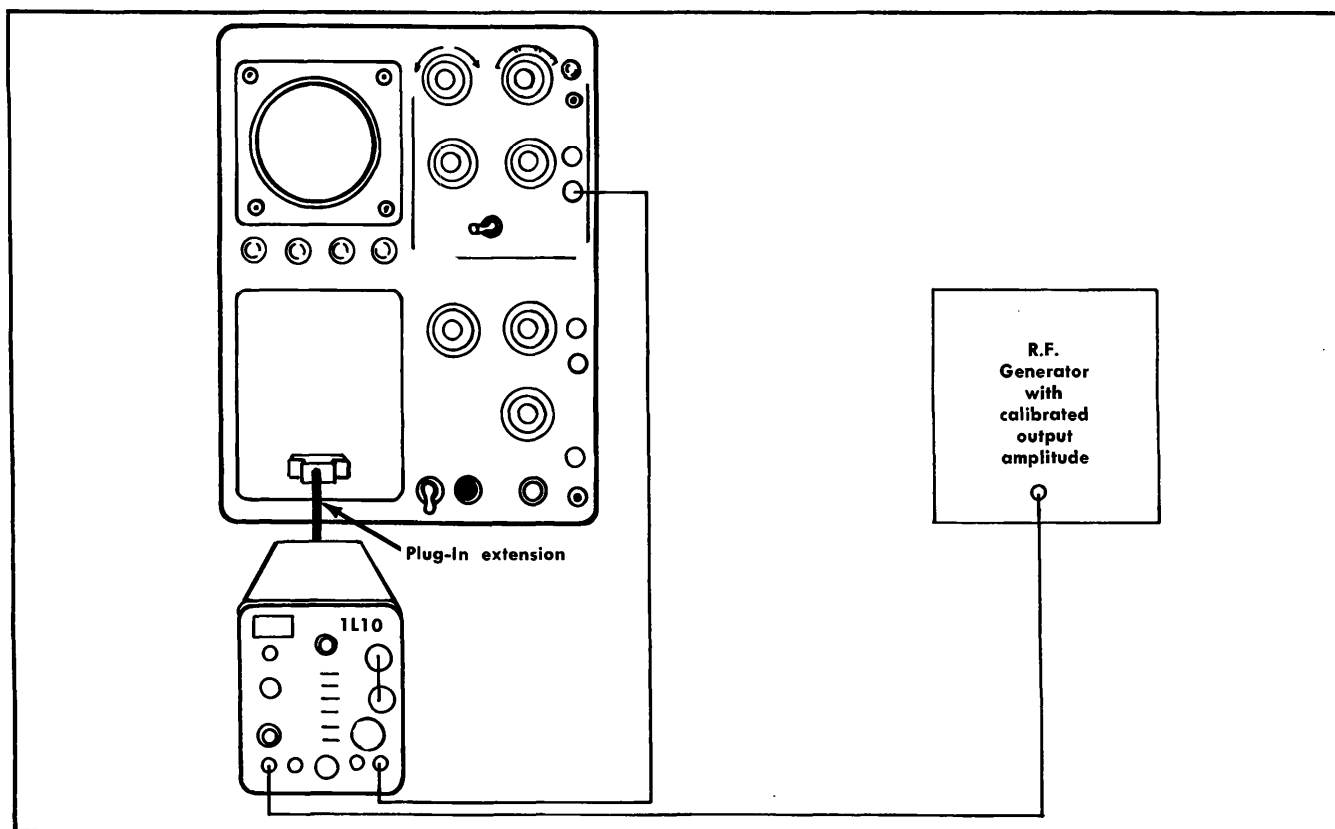

Fig. 4-22. Equipment Setup for LOG ADJ and GAIN RANGE adjustment.
a. Connect the equipment as shown in Fig. 4-22.